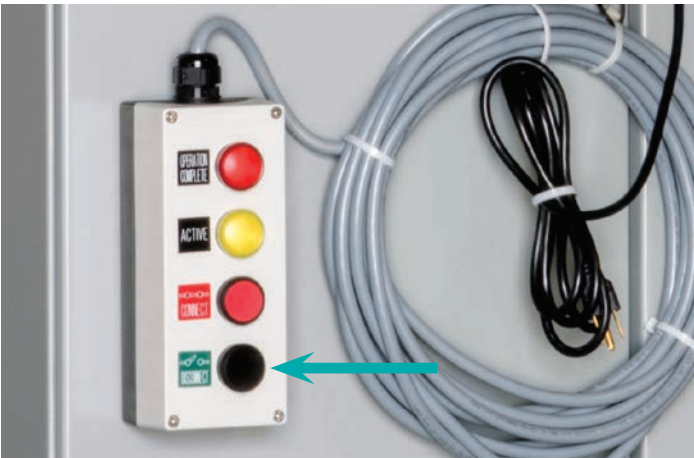

Figure 27: DISCONNECT button on pendant
2. While holding the pendant, press and hold the disconnect button (refer to Figure 27).